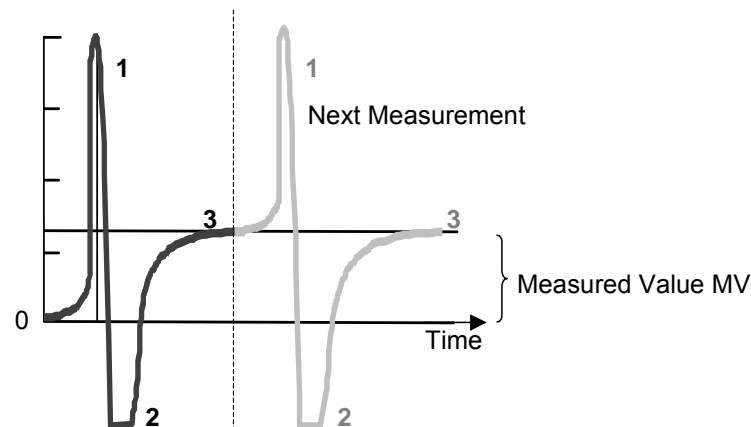

Fig. 13 Schematic Osmogram for a two droplets exchange
1. Apply the sample droplet — The signal indicates a positive overload, see 1 in Fig. 13.
2. Apply the solvent droplet — The signal indicates a negative overload, see 2 in Fig. 13.
3. A constant measurement value is achieved when the thermal equilibrium is reached and the signal stops to increase, see 3 in Fig. 13.
The pattern of the signal may resemble graphs given in Fig. 13.